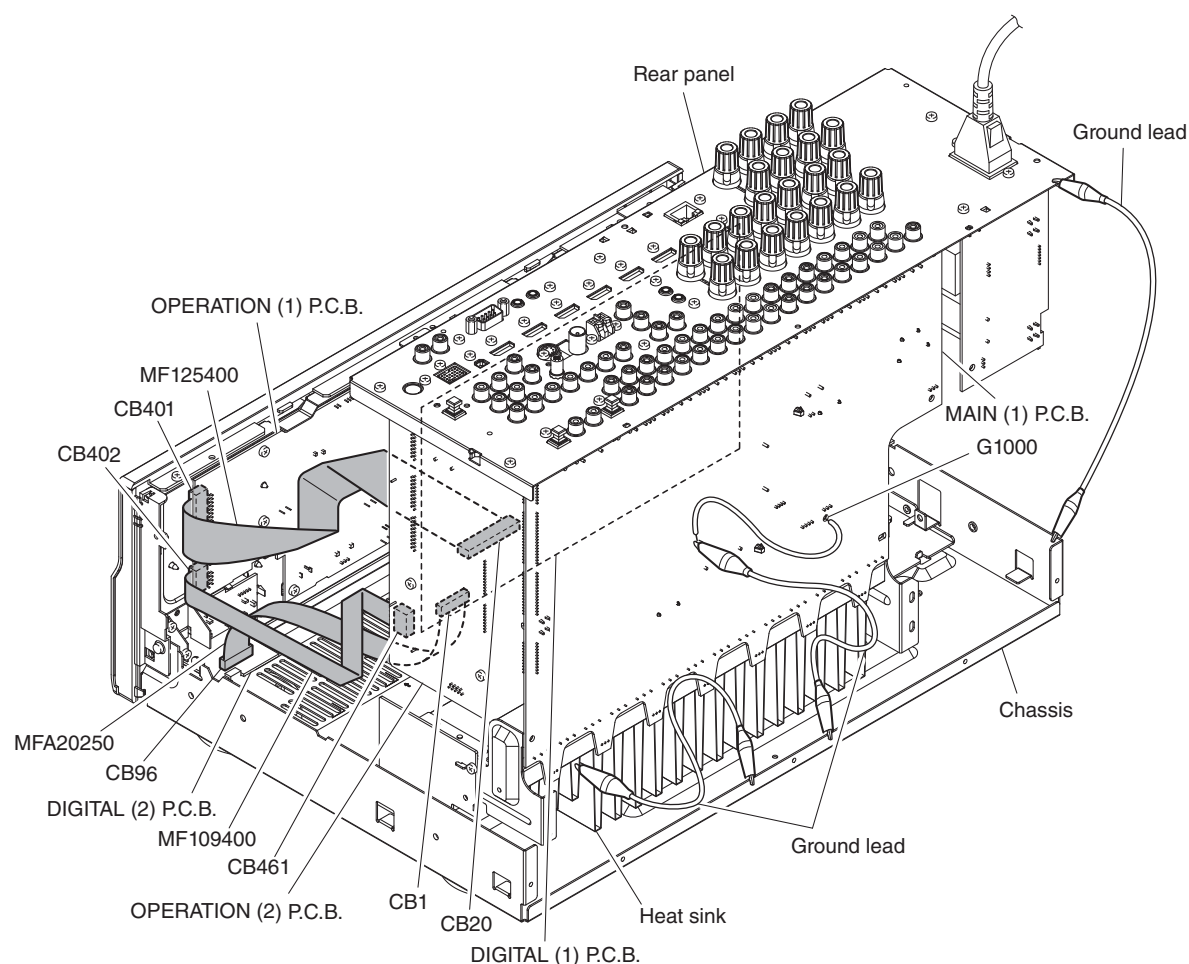

Fig. 3
- Place the P.C.B.s (with rear panel) upright. (Fig. 3)
- Connect the ground points of the heatsink, rear panel and MAIN (1) P.C.B. (G1000) to the chassis with a ground lead or the like. (Fig. 3)